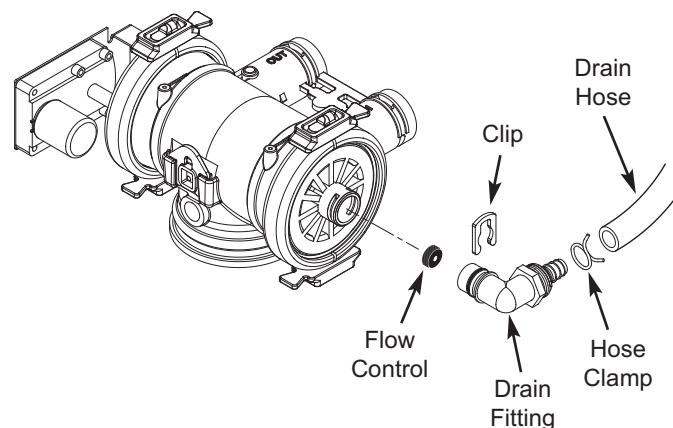

FIG. 99
1. Remove the clip holding the drain fitting into the valve (See Figure 99).